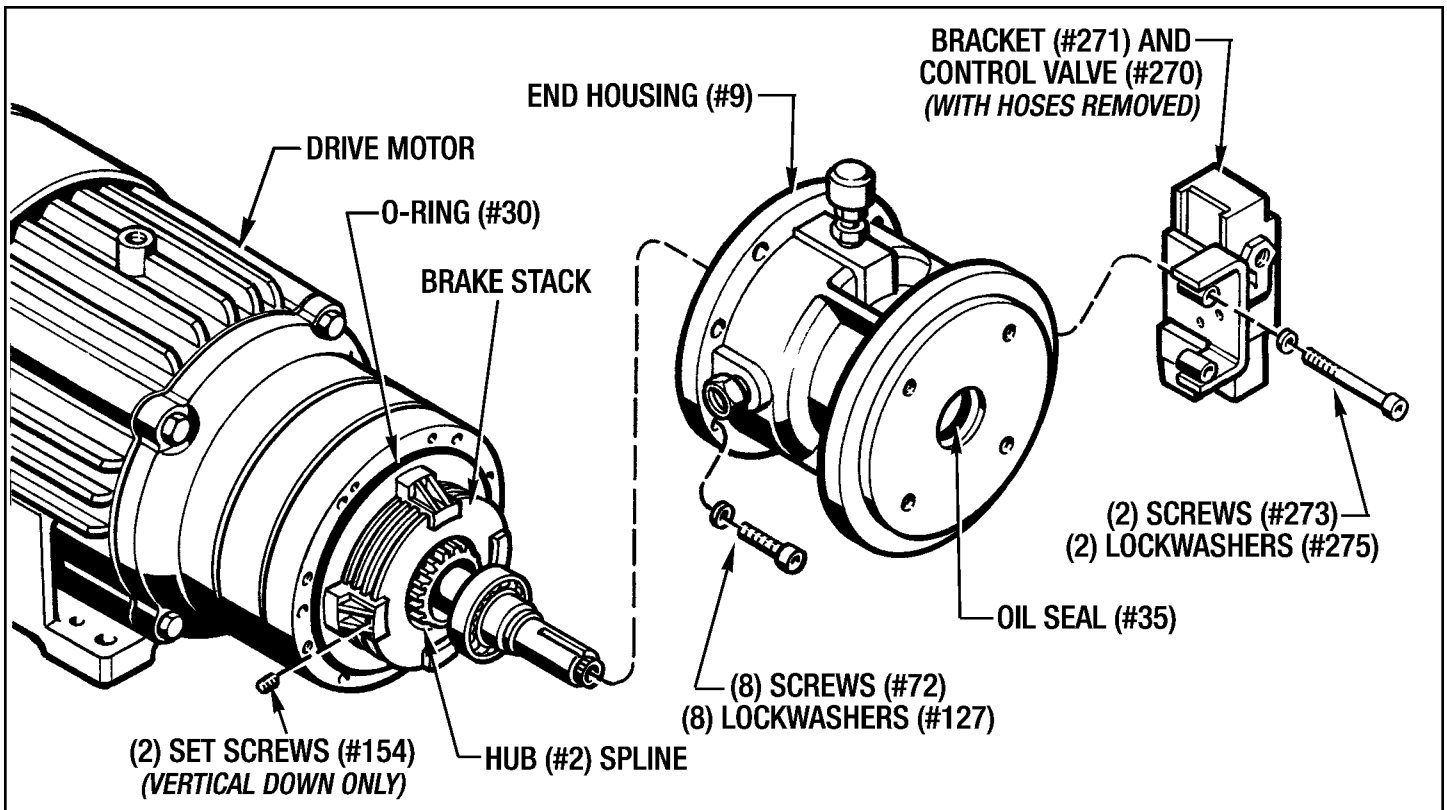

Figure 7.2 - Removing End Housing (#9) For Access to Brake Stack
(See Figure 7.2 on next page.)
1. Remove the (8) Screws (#72) and (8) Lockwashers (#127) from the End Housing (#9).
NOTE - If you have a brake mounted control valve, there will also be (2) Screws (#273) and (2) Lockwashers (#275). Remove them and disconnect the air hose under the brake. Take the Control Valve (#270) and Mounting Bracket (#271) off the End Housing (#9). (See Figure 7.2 on next page.)
4. Remove the **Brake Stack** from the Hub (#2) spline and the (4) lugs on the Piston Housing (#10).